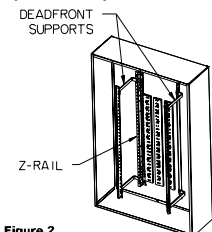
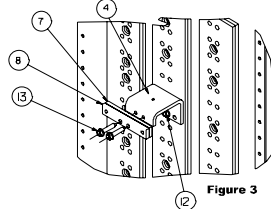
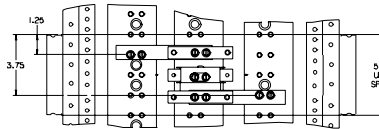
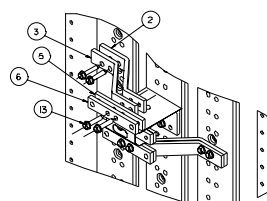

Figure 2
Figure 3
Figure 4
Figure 6
3. Reference fig. 2 - To mount a VL FG Frame breaker, 5" of empty unit space is required. To locate the mounting position, measure from the top deadfront support to the top of the empty unit space filler on the deadfront. Transfer this dimension from the deadfront support along the Z-rail and mark. This will be the unit space as shown on Fig. 4. After marking the Z-rail, remove the deadfront.
5. Reference fig. 3 and fig. 4 - The first items to be installed are the B-phase strap and B-phase links (items 4, 7, 8). Note that the 0.281" holes on the B-phase links (item 7 and 8) are offset and are not symmetrical as in A and C-phase links (items 5 and 6). Locate two 0.228" diameter holes on the B-phase of the section bus, 3.75" down from the top of 5.0" unit space selected. Insert two 1/4-20 thread-forming screws (see the mounting hardware kit, item 12, for proper length) through the two holes in the B-phase strap (item 4) and then into the 0.228" diameter holes on the B phase bus and tighten. Orient the B-phase links as shown in fig. 3 with the 0.281" holes located away from the bend on the B-phase strap (item 4). To install the B-phase links, insert two 1/4-20 X 1-1/4" screws (item 13) through two 0.281" holes on B bottom and top links (item 7 and 8) and then into the 0.228" diameter holes on the B-phase strap and tighten. Torque all screws to the values specified on the rear of the deadfront.
7. Reference fig. 4 and fig. 6 - Locate two 0.228" diameter holes in the A-phase section bus, 1-1/4" down from the top of 5.0" unit space selected. Insert two 1/4-20 thread-forming screws (see the mounting hardware kit, item 12, for proper length) through the two holes in the A-phase straps (item 2 and 3) and then into the 0.228" diameter holes on the A-phase bus and tighten. To install the C-phase strap (item 2 and 3) locate two 0.228" diameter holes on the C-phase section bus 3.75" down from the top of 5.0" unit space selected. Insert two more 1/4-20 screws through the two holes in the strap and then into the 0.228" diameter holes in the C-phase section bus. To install A and C-phase links (item 5 and 6) repeat the installation steps similar to B-phase links installation, orienting the link bars as shown so as to have 1.375" vertically between centers of the bars. Torque all screws to the values specified on the rear of the deadfront.